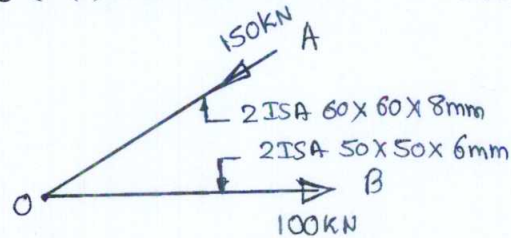

Fig. Q1(c)
c. Design bolted connection for the joint shown. Use M_{16} , grade 5.6 black bolts. Use grade of the section Fe410. Ref. Fig Q1 (c) Draw neat sketch. (10 Marks)